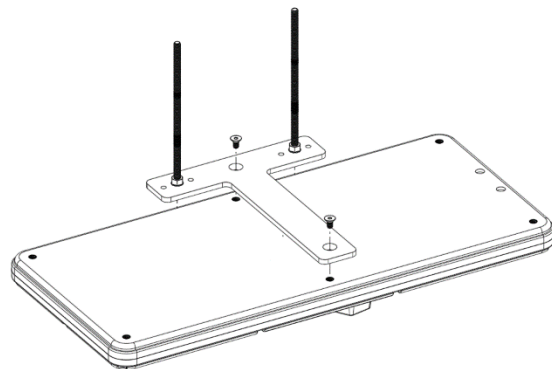

Figure 7-1: Securing the HSAT bracket to the bottom of ARES.
2. Mount the bracket to the bottom of the ARES device using the (2) ¼-20 x ½" flat head (with patch) screws at approximately 10 in-lbs. See Figure 7-1.